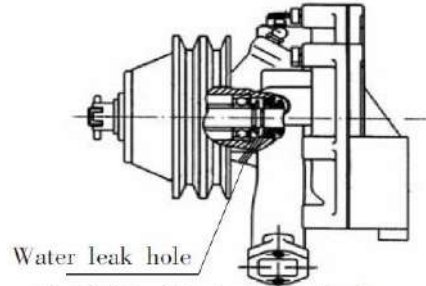

Fig 3-21 Check Water Leakage
5.6 Check water leakage of water pump. Change the water sealing of water pump as necessary (see Fig3-21). For details, please see section 6 of chapter 5.